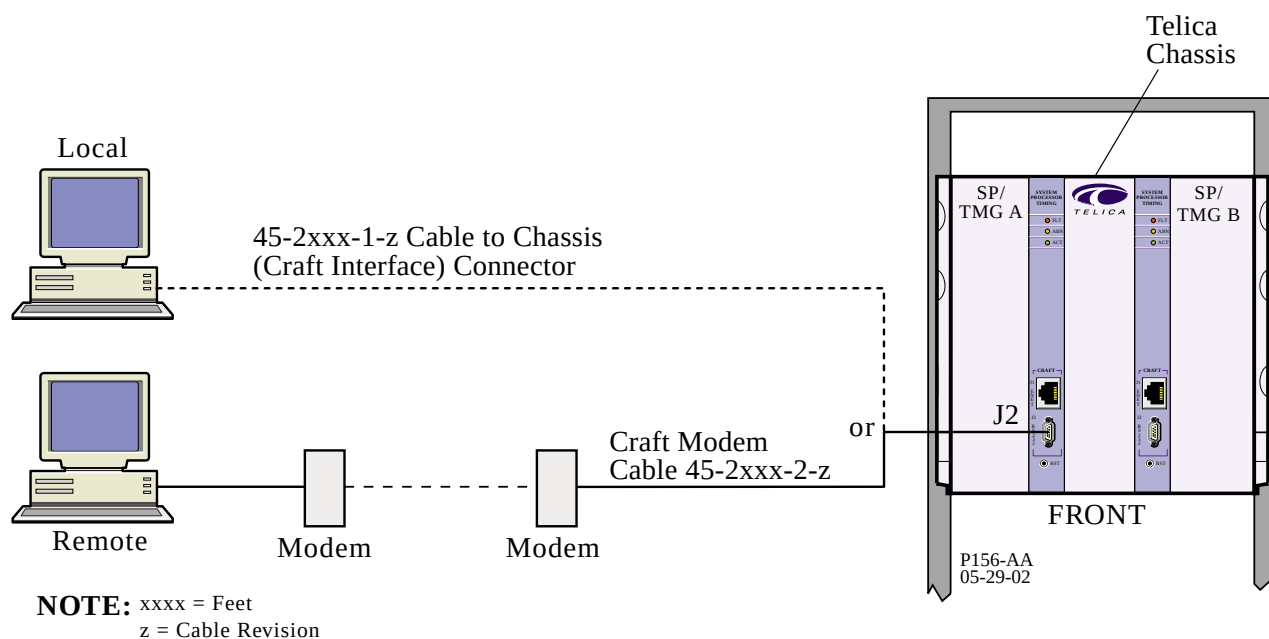

**Figure 2. Cabling to the Front SP for Craft Terminal**
6. Attach your craft cable to the DB9 port labeled craft (J2) on the front SP/TMG card, as illustrated in Figure 2 and then go to Step 8.